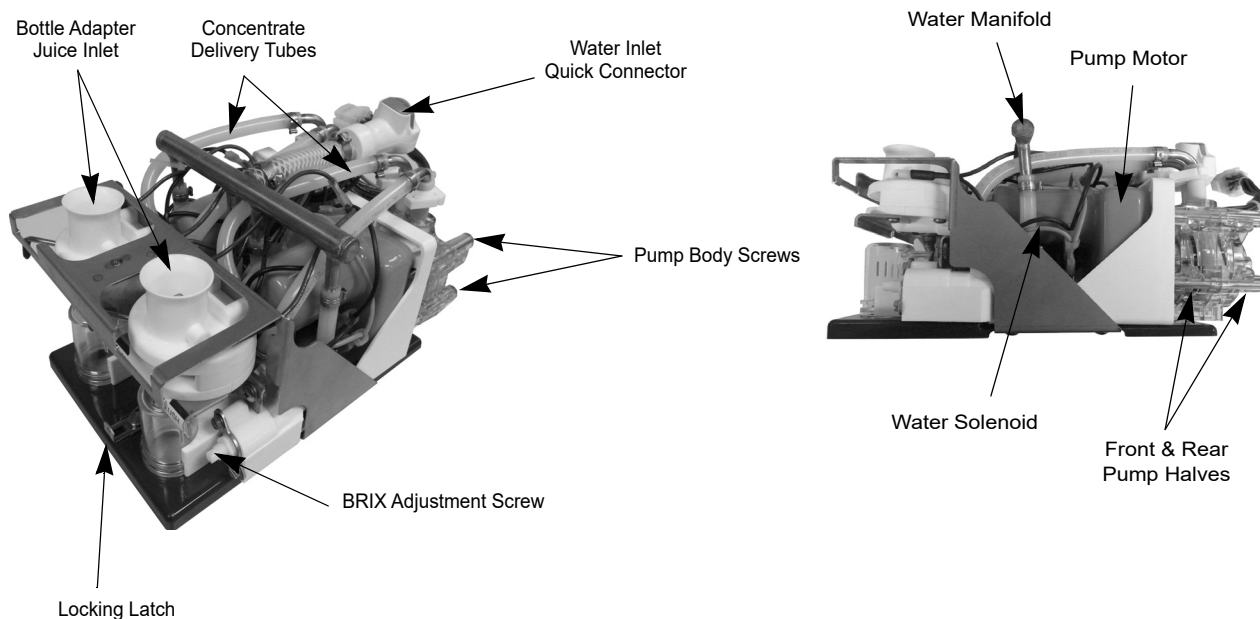

Figure 22. Interior Details
4. Unplug the water line quick disconnect by pressing the gray button (See Figure 22).
5. Slide the locking latch forward. Lift the platform slightly and pull forward to gain access to the electrical connector (see Figure 22).
6. Unplug the electrical connector by squeezing the locking tabs on either side and pulling out the connector. Lift and remove the pump platform (see Figure 22).
1. Remove the two white plastic hose clamps from the pump tube connections (See Figure 22) and remove the concentrate delivery tubes from the hose ends.